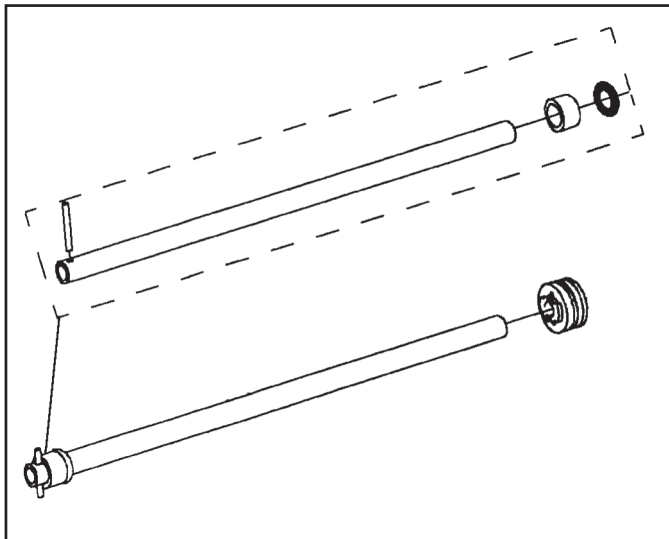

Figure 161
4. Separate the 4th clutch feed pipe from the flange (See Figure 161).